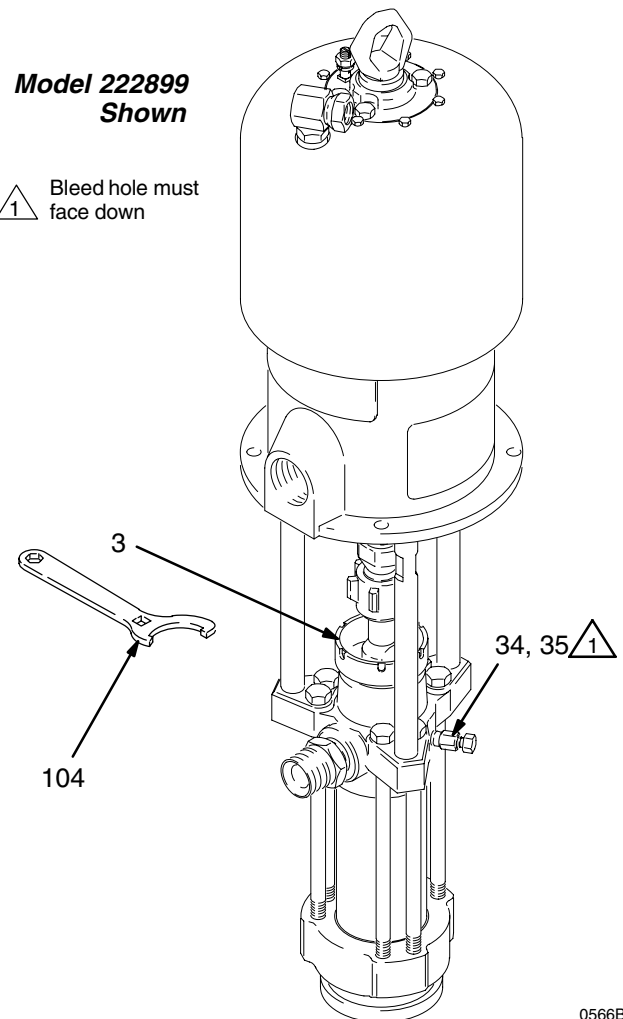

Fig. 5
Before starting, fill the packing nut (3) 1/3 full with Graco Throat Seal Liquid (TSL) or compatible solvent. See Fig. 5.
4. If the pump fails to prime properly, open the bleeder valve plug (35) slightly. Use the bleed hole on the underside of the valve body (34) as a priming valve until the fluid appears at the hole. See Fig. 5. Close the plug (35).
9. If the pump fails to prime properly, open the bleeder valve plug (35) slightly. Use the bleed hole on the underside of the valve body (34) as a priming valve until the fluid appears at the hole. See Fig. 5. Close the plug (35).